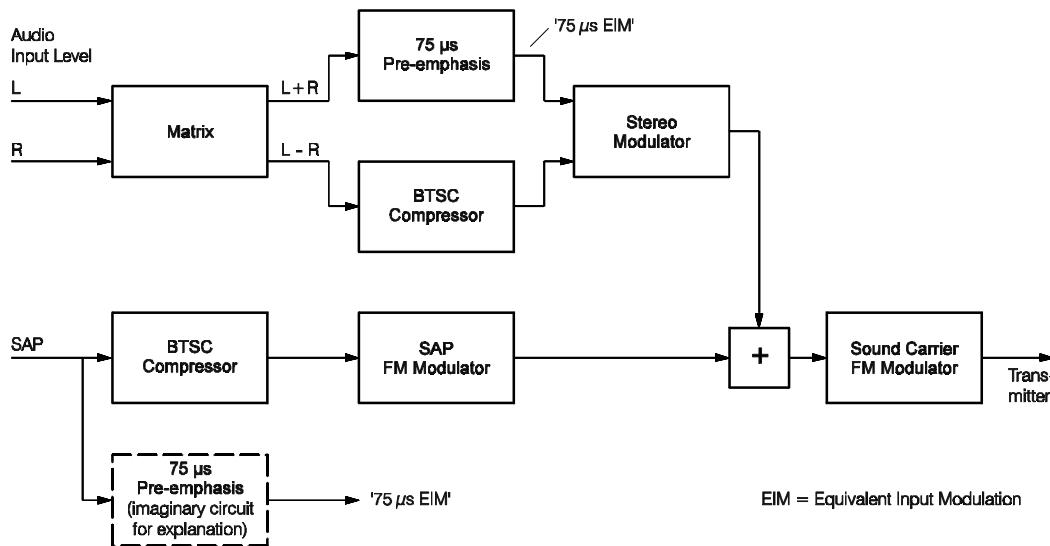

Figure 5-34. Simplified Diagram of a BTSC Transmitter System
The broadband baseband spectrum is transmitted using frequency modulation on the sound carrier (4.5 MHz). Due to the parabolic noise characteristic, which is typical for FM transmission systems, the noise level increases for higher frequencies. To improve the Signal-to-Noise Ratio of the L - R signal and the SAP signal, both channels are encoded by the BTSC Compressor; see Figure 5-34.
Figure 5-34 shows a simplified diagram of a BTSC transmitter system. The BTSC modulation standards and the maximum allowed peak deviations are shown in Table 5-15.
- The maximum allowed audio input level of 100% modulation ($100\% \hat{=} 0$ dB) is frequency dependent due to the 75 μ s pre-emphasis; see Figure 5-34.
This is used as a reference and determines the modulation level that would occur for the equivalent Mono signal processed using a 75 μ s pre-emphasis, see Figure 5-34.